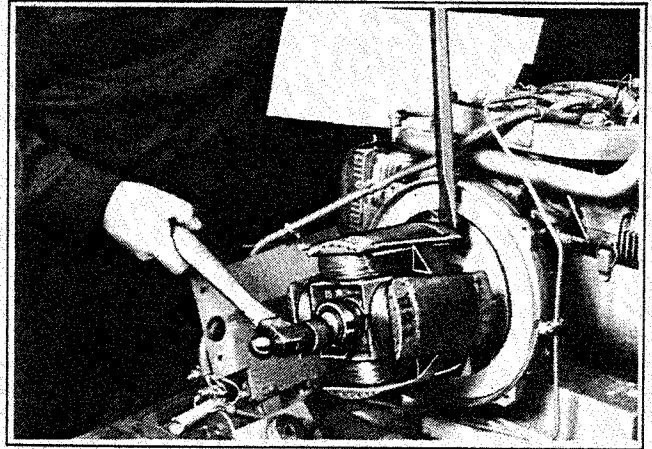

Figure 8-11. Striking Thru-Bolt
19. Loosen the rotor from the tapered stub of the crankshaft by striking the thru-bolt head with a heavy mallet. See Figure 8-11. Remove rotor and fan.